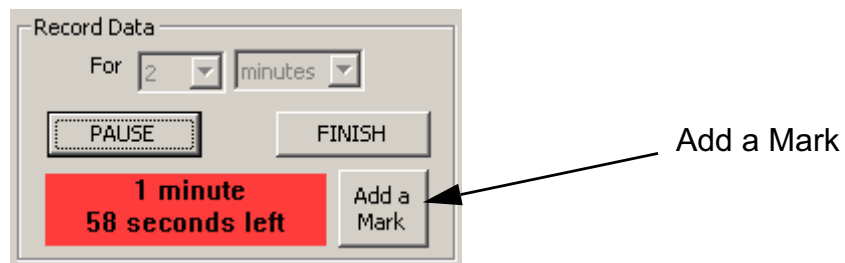

Figure 3.13: Adding a Mark
2. While you are recording data, click **Add a Mark** (see Figure 3.13).